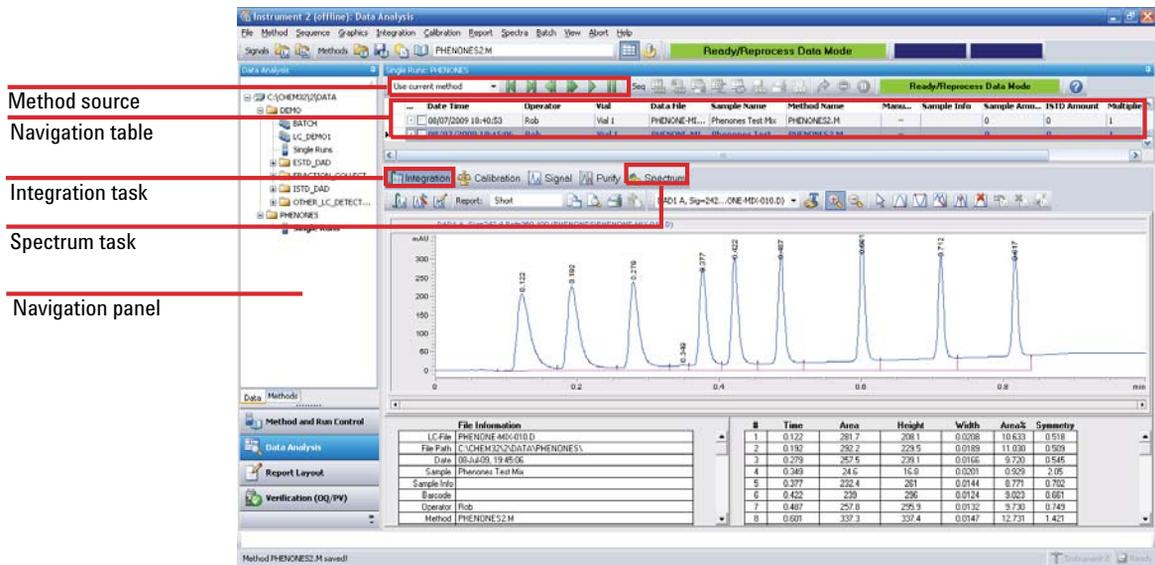

Figure 26 Data Analysis view
- 2** Click Data Analysis in the bottom left of the screen (see Figure 26 on page 93).